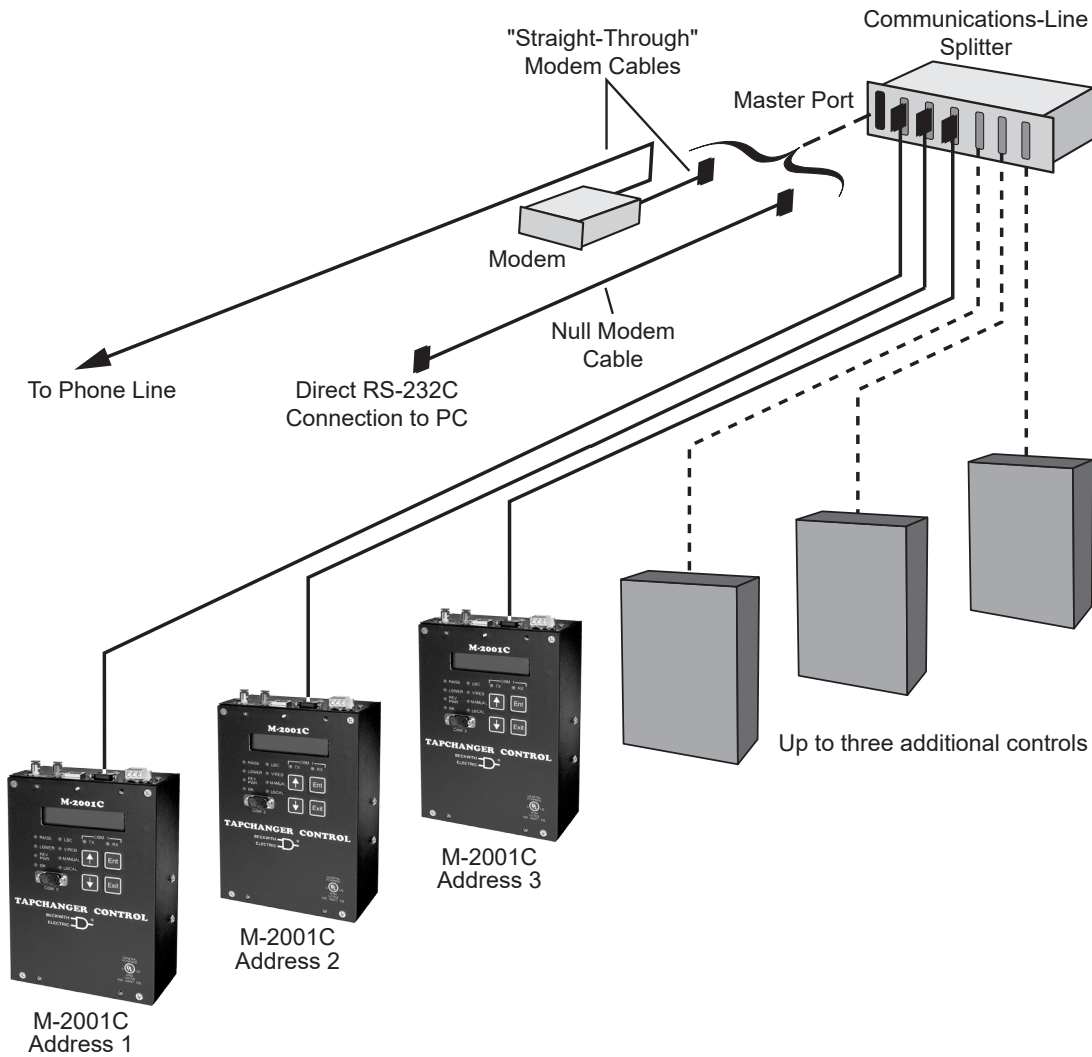
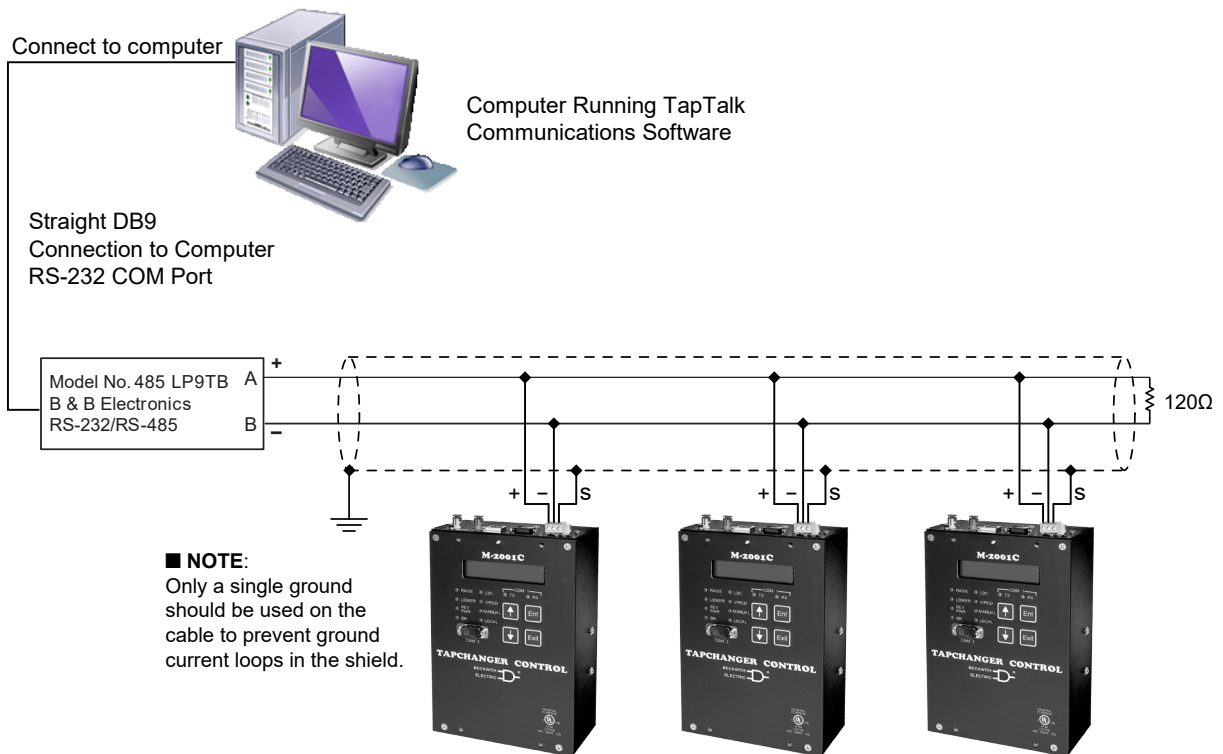

Figure 3 Network Connection (Comprehensive and Base-RS Models)
Figure 5 RS-485 Network Connection (Comprehensive and Base-RS Models)
**Communications Using Networking:** The addressing capability of TapTalk allows networking of multiple Beckwith Electric digital tapchanger controls (COM1 or COM2, COM1 shown). Each tapchanger control can be assigned an address ranging from 1 to 200. Selected commands may be broadcast to all controls on the network. Figure 3 through Figure 5 illustrate typical network configurations.